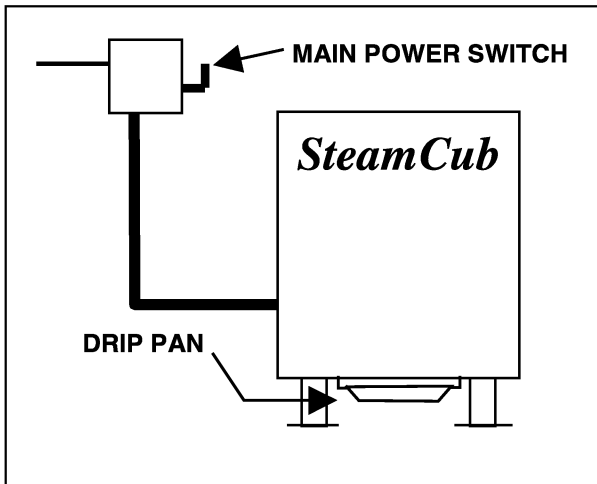

Figure 4-4, Recommended Electrical Layout
- e. There should be a sufficient length of flexible conduit between the steamer and the wall so the unit can be serviced. Mechanically secure the flexible conduit to the electrical access hole (Figure 4-4).
- f. Refer to the connection diagrams in Figure 4-4, and connect the wires to the terminal block and ground connector accordingly.
- (1) Check that the drain valve is closed. There should be no water in the steamer.
- (2) Open the steamer door. Check for proper installation of the slide racks, and door gasket assembly. Be sure the drain is not blocked. Shut the steamer door.
- (3) Refer to electrical layout, Figure 4-4, and Table 4-1. Be sure the main power switch is in the off position. Verify installation of the proper size fuses or breakers.
- (4) Set the ON/OFF switch to the OFF position and open the steamer door.
- (5) Remove the right side access cover.
- (6) Check the internal wiring and make sure there re no loose or disconnected wires. Verify that the supply wiring is of adequate size and that the unit is properly grounded. Correct any deficiencies.
- (7) Turn on the main power switch.
- (8) Turn the ON/OFF switch to the ON position.